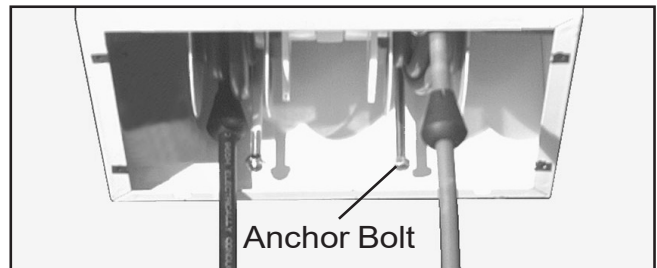

Figure 14
5. Push reel assembly up into mounting box until it rests against top of box. Secure reel assembly to top of mounting box using two anchor bolts with lockwashers (Figure 14).